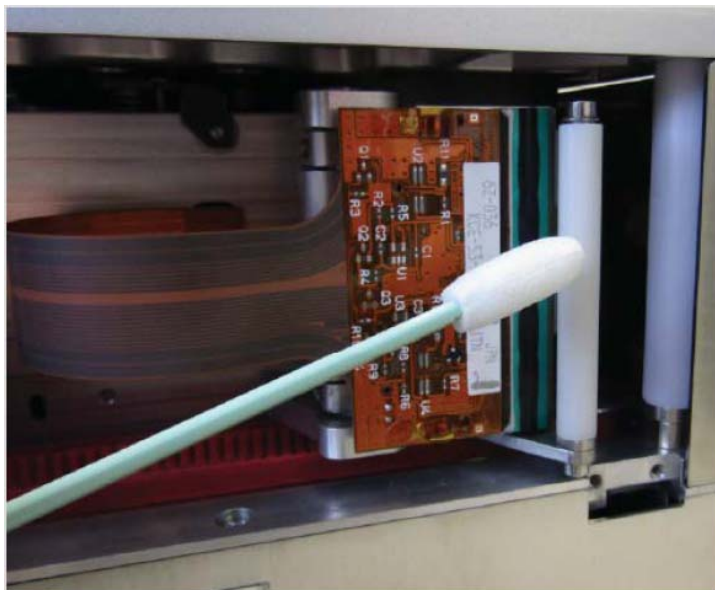

Figure 7-1: Printhead Cleaning
4. Clean the printhead pixel line from top to bottom (Figure 7-1), the white cassette rollers and the peel roller gently, using the cleaning swabs or wipes provided with the printer. The cleaning kit will contain Videojet approved pre-soaked cleaning wipes or swabs.